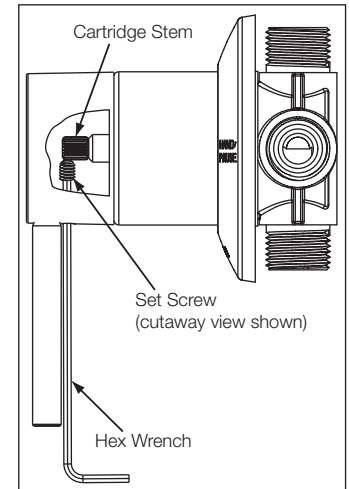

Figure 5
4. Remove the handle and hex wrench from the trim pack. Note the location of the set screw hole. The set screw is installed in the handle at the factory. It may be necessary to loosen the set screw slightly to make sure the handle slides onto the cartridge stem completely (see Figure 5).
6. With the handle stem correctly oriented, insert the hex wrench into the handle cap hole and slowly tighten the set screw until it fully and securely engages onto the cartridge stem (see Figure 5).